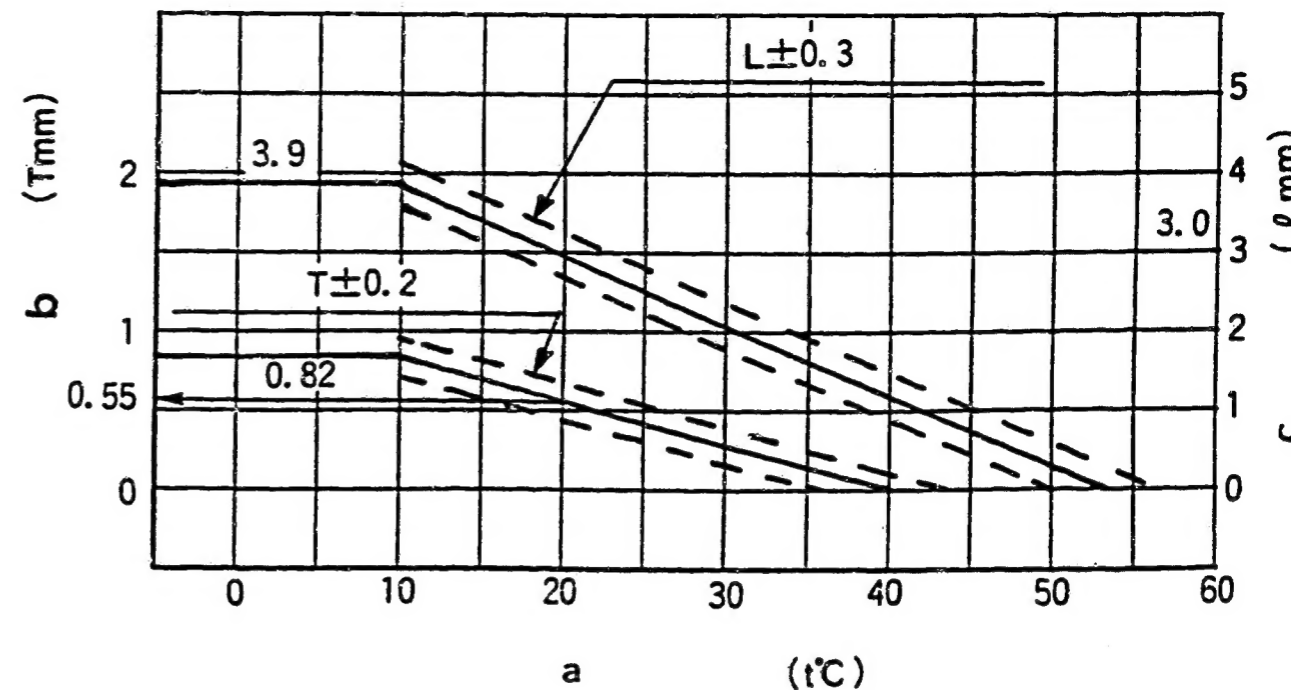

Figure 5
- 1) Calculate the timer stroke from Fig. 5 according to the atmospheric temperature at the time of adjustment.
- 2) Adjust using the timer stroke adjusting screw so that the timer stroke is as calculated in Fig. 5 (diagram).
- 1) Calculate the block gauge dimension $l \pm 0.05$ mm from (Fig. 5) according to the atmospheric temperature at the time of adjustment.